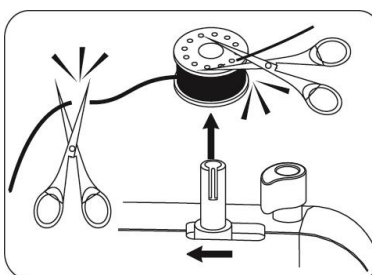

Fig.33
6. Release the foot pedal and turn off the machine. Remove the bobbin and cut off the thread. Slide the thread winder pin to the left. (Fig.33)